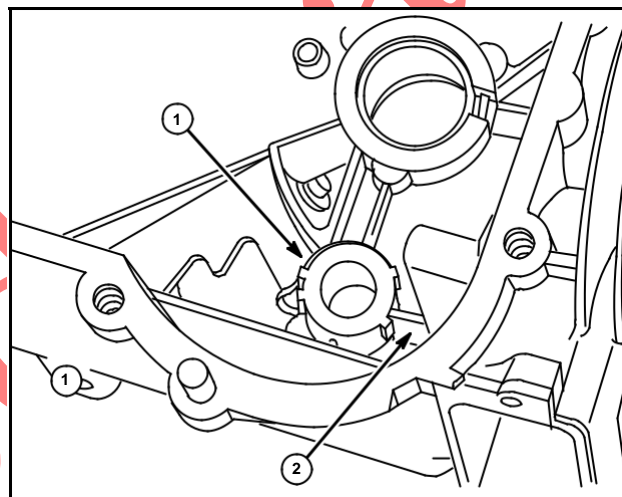

Fig. 64
When replacing clip washer in cylinder, be sure flat on clip washer (1) is in line with flat on cam bearing boss and spring tabs are on both sides of cam bearing web (2), Fig. 64.